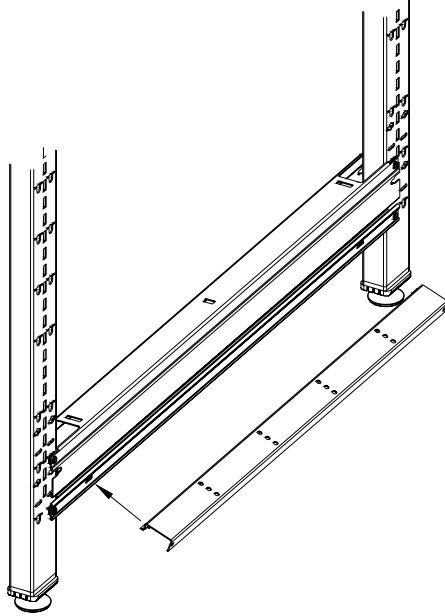

Figure 1
- B. To install the mounting channel to the panel, position the channel with the open end in the same direction as the open end of the horizontal it is being mounted to (see Figure 1).
- C. Place the tabs on the channel into the corresponding slots on the horizontal channel and pivot the channel into place (see Figure 1).